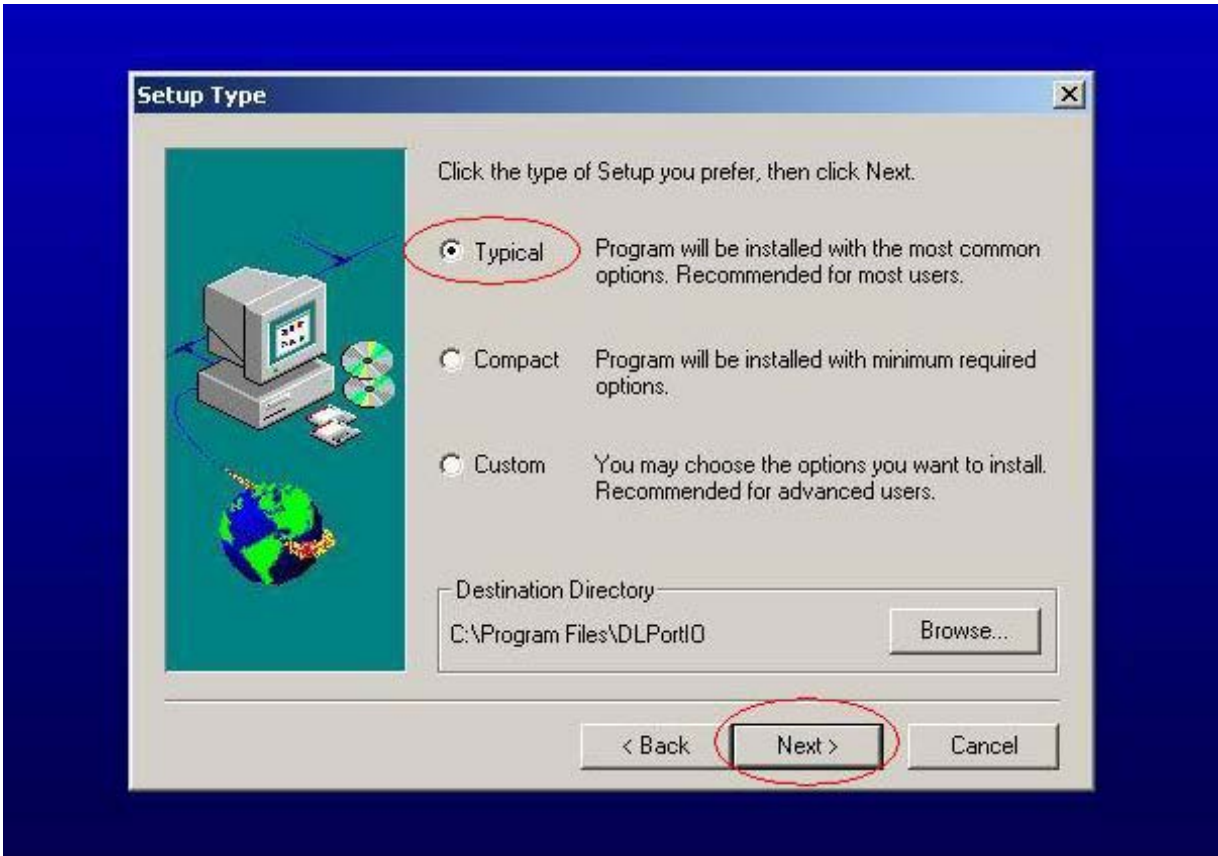

Fig. 0.3
4. Choose "Typical" then press "Next;" see Fig. 0.3.